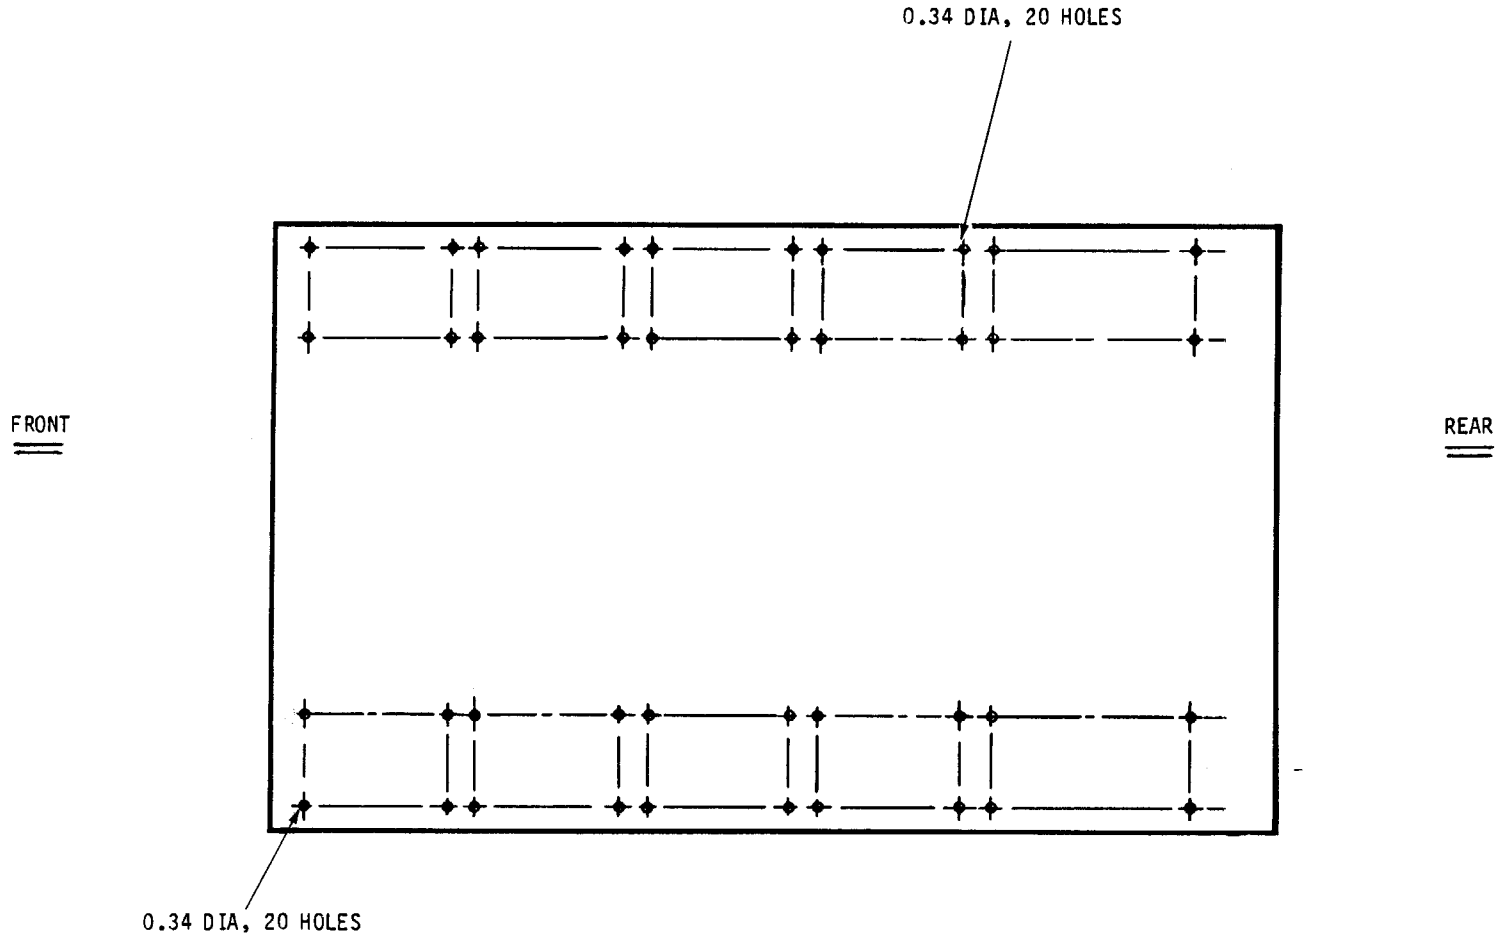

Figure 3. Hole Dimensions for Floor Mounted Storage Cabinets, M35A2.
(3) Using the holes in the storage cabinet bottoms as templates, mark and drill twenty 0.34-in. diameter holes through truck floor in accordance with figure 3. Secure the storage cabinets to the floor, using twenty 5/16- x 1-in. hex head capscrews (MS90725-34), twenty 5/16-in. flat washers (MS27183-11), twenty 5/16-in. lockwashers (MS35338-45), and twenty 5/16-in. hex nuts (MS51967-5).